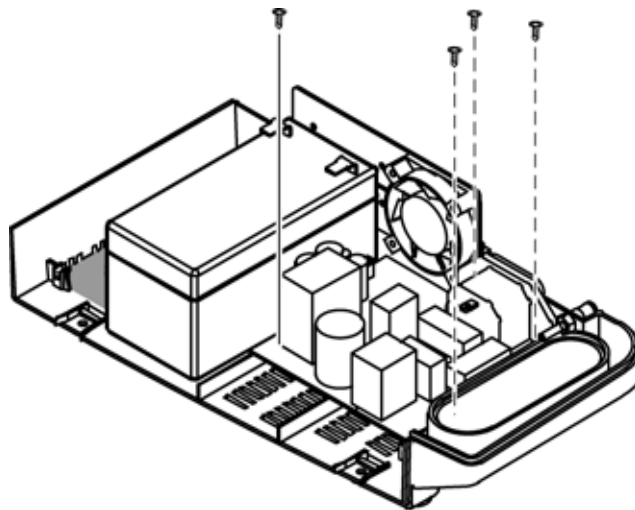

Figure 29: Power Supply Screws
3. Unplug the wiring harness connector from the power supply, item 1.
4. Disconnect the AC plug ground wire from the AC plug, item 2.
5. Unscrew the four screws from the power supply. See Figure 29.